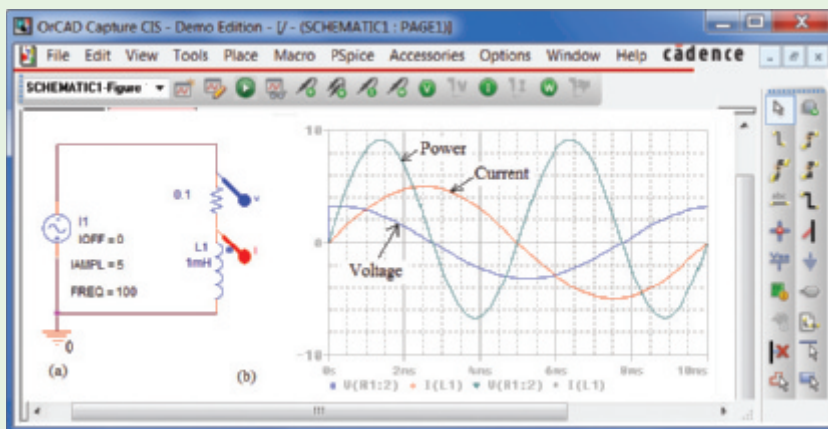

FIGURE 17–31 Investigating instantaneous power using PSpice.
1. PSpice represents current into devices, not out. For this reason, the source in Figure 17–31 must be rotated before positioning so that its end marked + is at the bottom.